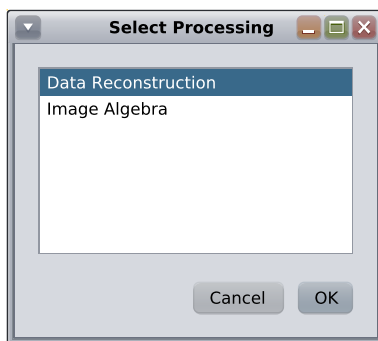

Figure 1.58: Dialog Select Processing
- A selection dialog (see [Figure 1.58 \[p 75\]](#)) is displayed.